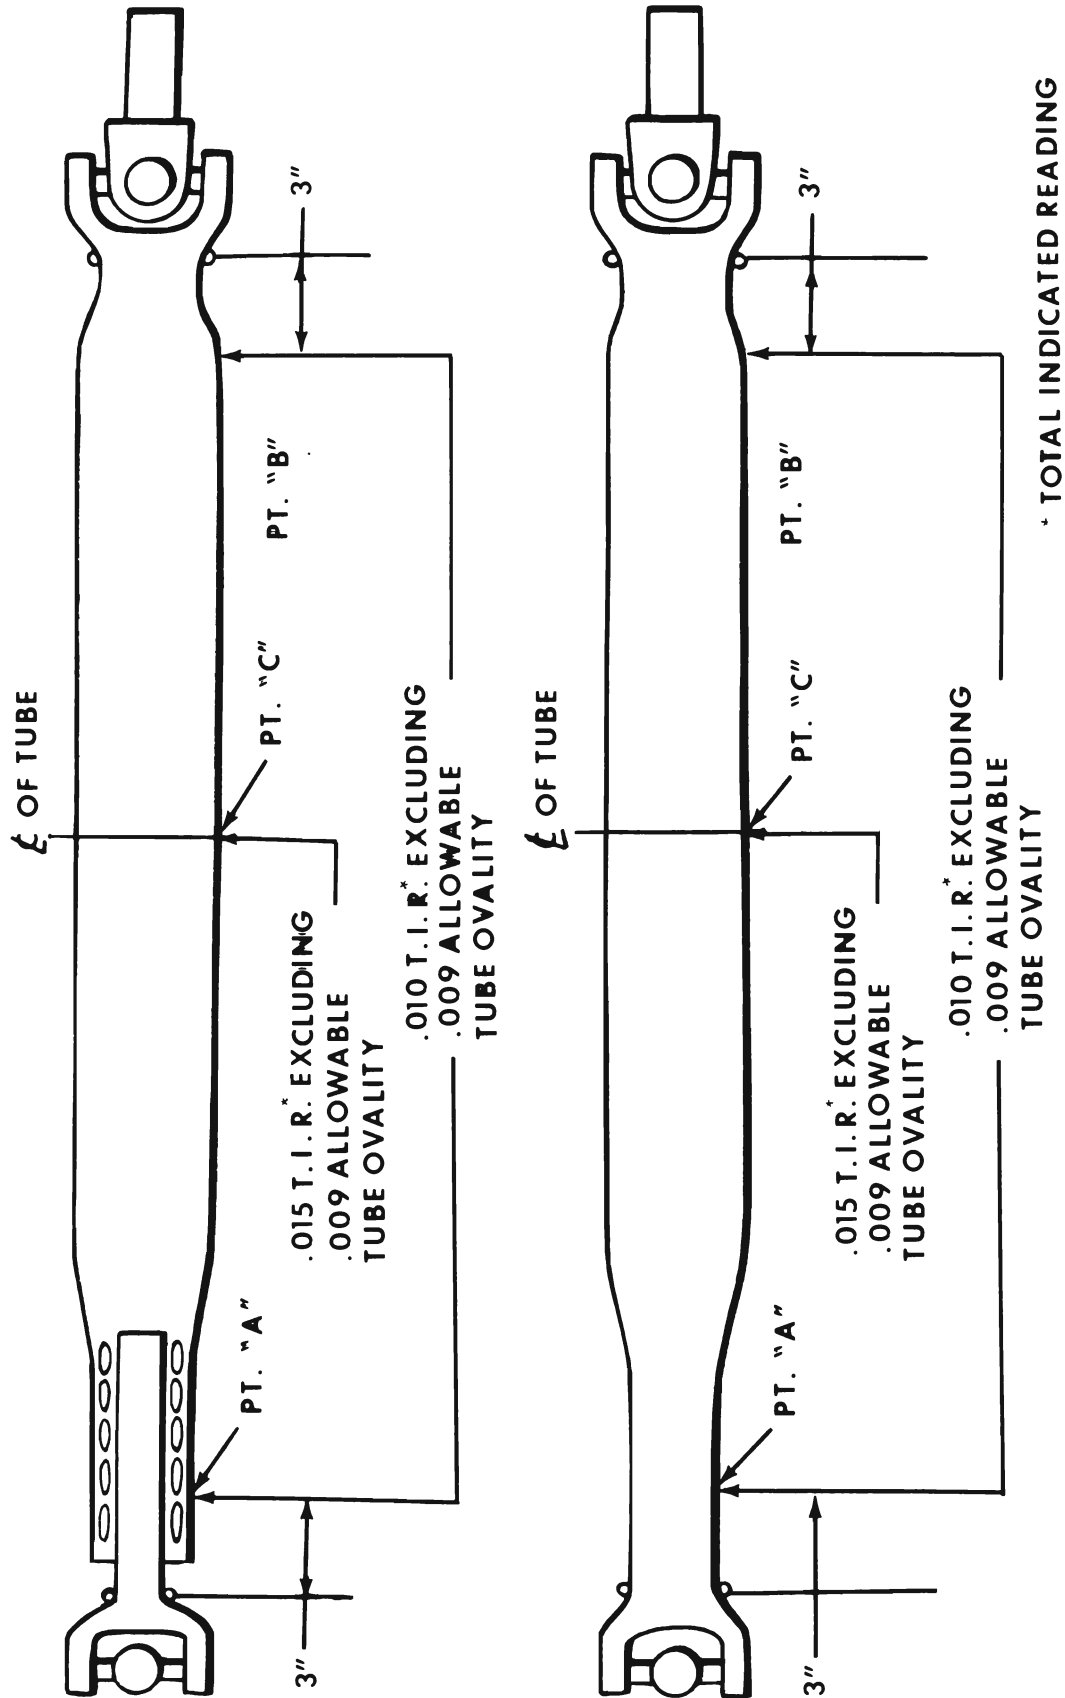

Figure 6-55—Propeller Shaft Run-Out Specifications
2. Mount a dial indicator on a movable support that is high enough to permit contact of indicator contact button with propeller shaft. Readings are to be taken at points indicated in Figure 6-55.